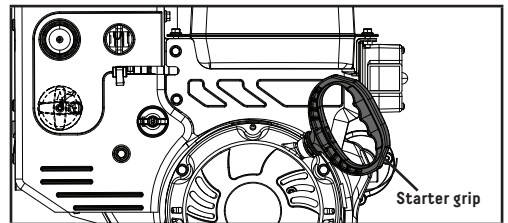

Figure 12C
6. Stand back and to the right of the unit, pull the starter grip lightly until you feel resistance then pull briskly. Return the starter grip gently (Fig. 12C).